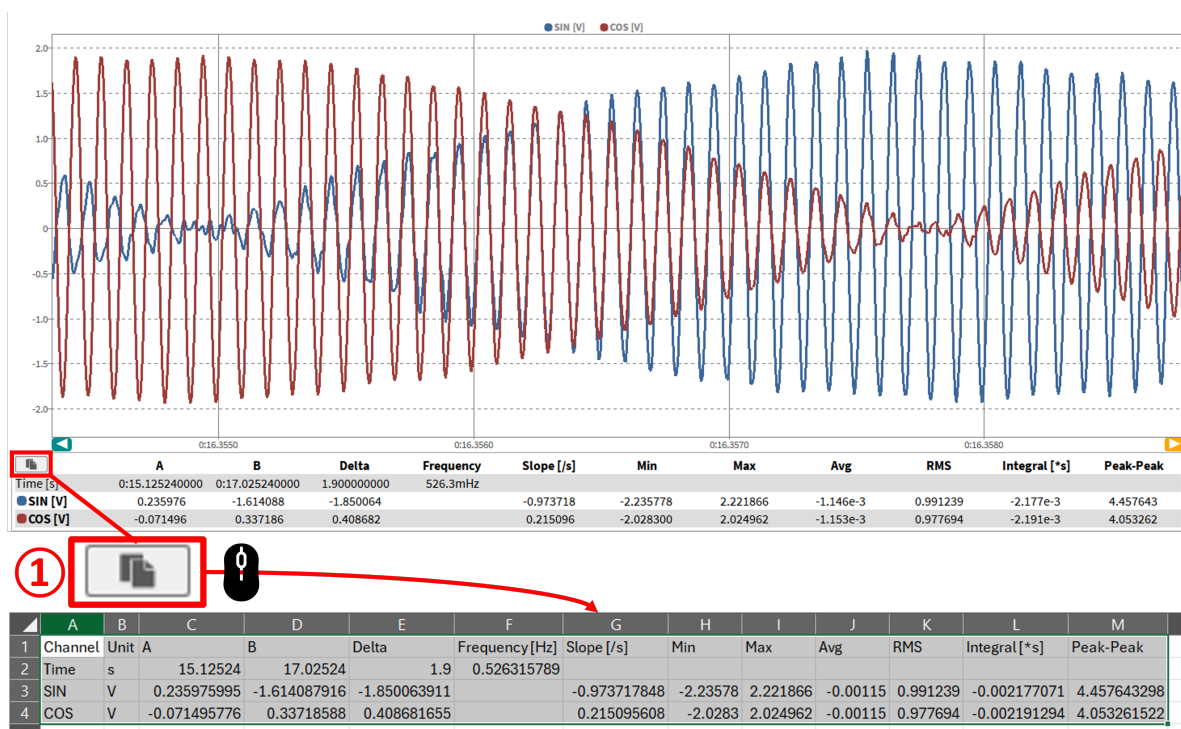

Fig. 8.24: Copy cursor values to clipboard
It is also possible to copy the displayed cursor values directly from the instrument in use to the clipboard and paste them into an Excel file or a simple text file, for example. To do this, simply click on the copy button displayed on the left above the table of cursor values (see ① in Fig. 8.24) or you can simply click in the instrument with the left mouse button and copy the values with the key combination “CTRL + C”.